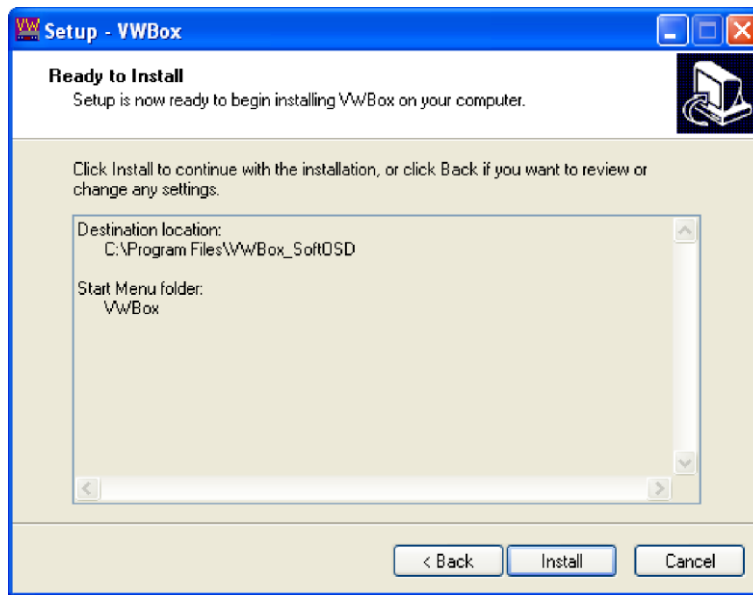

Figure 4-18: SmartOSD Ready to Install
Step 10: The **Ready to Install** dialog will show be displayed (**Figure 4-18**).